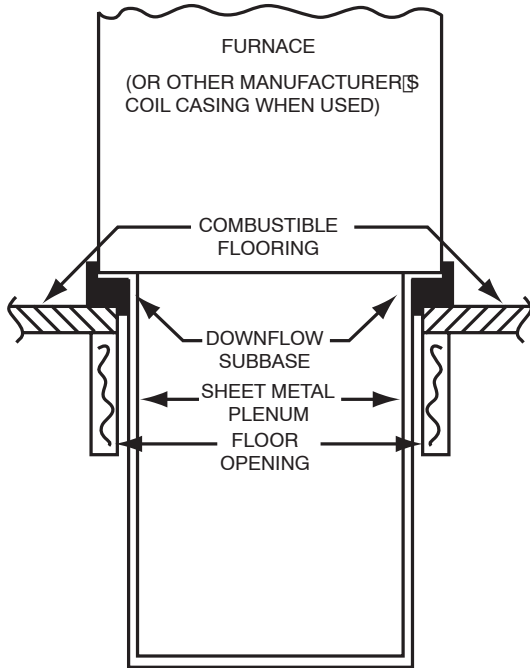

Fig. 20 - Furnace, Plenum, and Subbase Installed on a Combustible Floor
4. If special base (KGASB) is used, install as shown in Fig. 20.